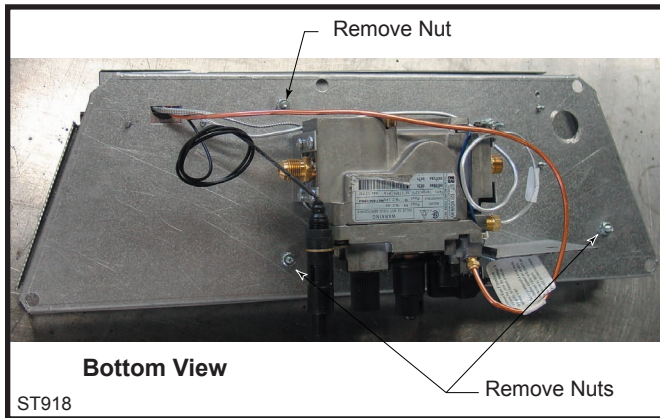

Fig. 71 Remove three (3) nuts securing ember bed in place.
1. Remove three (3) 3/8" nuts on bottom side of burner pan. (Fig. 71)
2. Thread and tighten 3/8" nuts back onto pem studs on underneath side of control panel, reversing Step 1 shown in Figure 71.